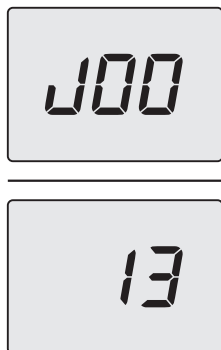

Fig. 2.2
If the pressure reading on the pressure gauge is below that shown in Fig. 2.2, then the system will require topping up. A filling loop is normally provided by the Installer for this purpose.
- Press keys 15 and 16 at the same time to access the "INFO" menu (information). The index value "J00" will be shown on the display in alternation with the pressure value "13" (1.3 bar). The number indicating the pressure is displayed without a decimal point, and the letter indicates the unit of measure (bar) (Fig. 2.2).
- Open the valves on the filling loop and, at the same time, check the heating circuit pressure on the display. The pressure must be between 1 bar and 1.5 bar (e.g. 1.3 bar in (Fig. 2.2).